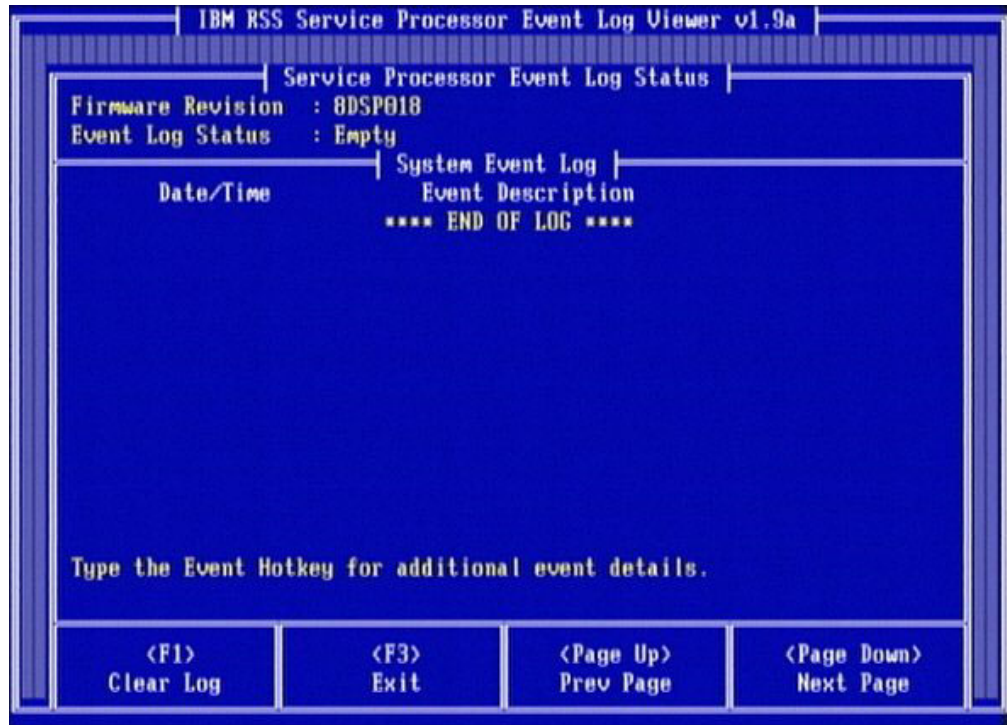

Figure 44. Example of saved events screen
2. Press Ctrl+D to open the System Event Log Viewer. A screen similar to Figure 44 appears.